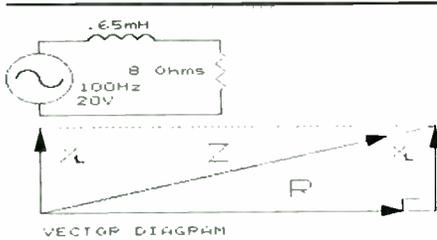

FIGURE 1. Circuit and vector diagrams for a typical problem-solving session.
**PROBLEM SOLVING.** When dealing with reactance and resistance, voltages and impedances are not necessarily added arithmetically. For example, the voltage drop across a resistance is in phase with the current; the voltage drop across an inductive reactance is  $90^\circ$  ahead of the current. Introducing vectors to represent these phase differences, along with Ohm's law ( $I = E/R$ ) and the equation for power in watts ( $P = I^2R$ ), I enable the students to see the power supplied to an  $8\Omega$  speaker with an inductor in series with it. They are asked to solve in class the following type of problem using the circuit and vector diagrams in Fig. 1: